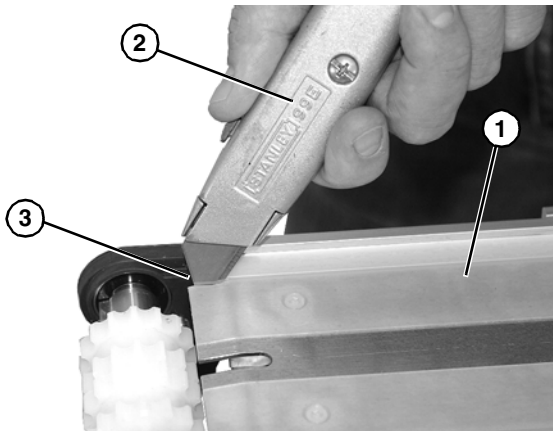

Figure 72
5. Install new wear strip (Figure 72, item 1).
6. Using a utility knife (Figure 72, item 2), cut out notch in each corner (Figure 72, item 3).